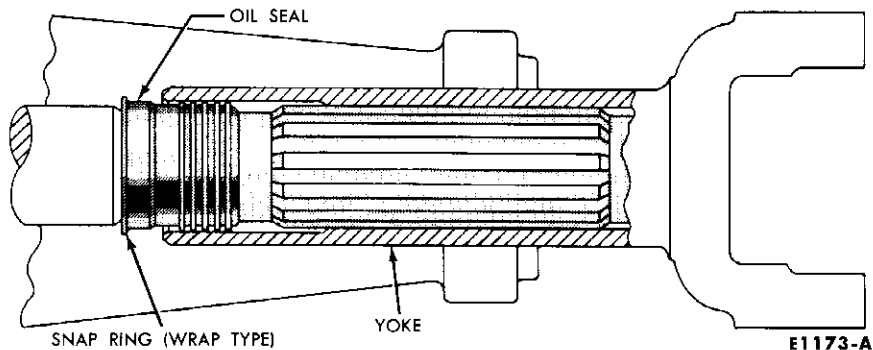

FIG. 6—Output Shaft Spline Seal
16. On a manual-shift transmission, lubricate the yoke spline with B6A-19580-A or -B. On a Cruise-O-Matic transmission, lubricate the yoke spline with B8A-19589-A. This spline is sealed so that the transmission fluid does not “wash” away the spline lubricant (Fig. 6). Install the yoke on the transmission output shaft.